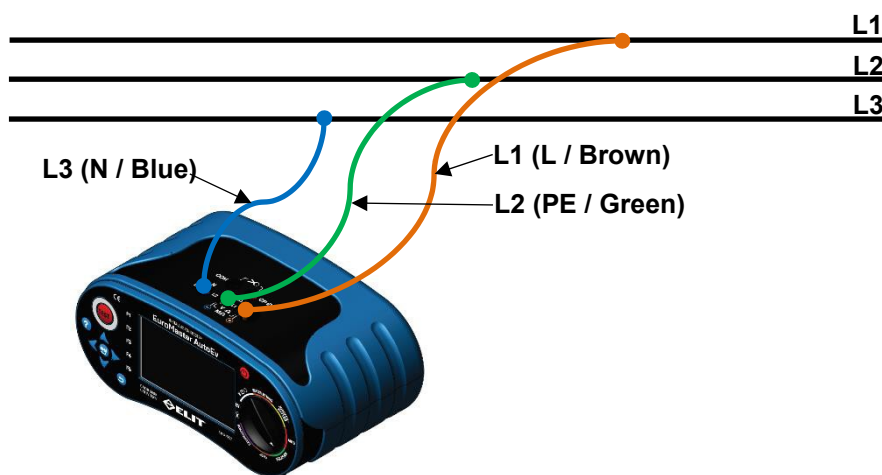

Figure 6.4.4 Phase sequence Connection.
- II. Connect as shown in Figure 6.4.4